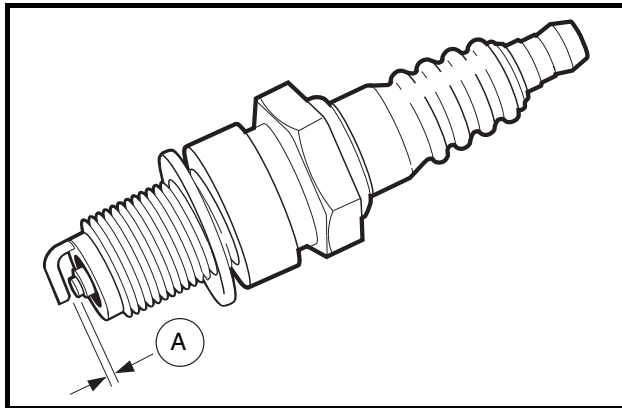

Figure 13-1 Spark Plug
Examine the plug (**Figure 13-1, Page 13-2**). The deposits on the plug base and electrode are an indication of the correct heat range and efficiency as well as a guide to the general condition of the engine, fuel and air mixture and ignition system. If all of the above conditions are proper, the spark plug should be a light brown color. There should be no bridging between the electrode and base. The electrode should not be eroded. Black color, excessive carbon, and/or a wet plug indicates that the fuel is too rich. White, burned or melted electrodes indicate the fuel is too lean or pre-igniting. Oily deposits on the plug electrode are an indication of worn rings, valve guides, cylinder wall, etc. Also examine the spark plug wire. Remove rubber boot and inspect internal spring for damage. Inspect spark plug wire for damage and be sure spring coil is securely attached to spark plug. **See following WARNING.**
2. Use a wire type gauge. Bend the outside or ground electrode so only a slight drag on the gauge is felt when passing it between the electrode. Never make an adjustment by bending the center electrode. Set gap (A) to 0.027-0.031 inches (0.69-0.79 mm) (**Figure 13-1, Page 13-2**).